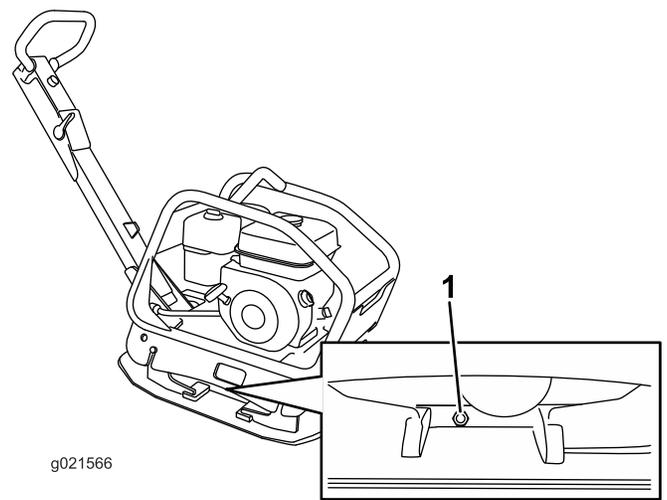

Figure 21
2. Place a drain pan under the oil plug and remove the oil plug screw on the side of the eccentric housing (Figure 21).
2. Place an oil drain pan under the oil plug and remove the oil plug screw (Figure 21). Place an oil drain pan under the oil plug.
3. Tip the plate compactor slightly to the right, and use a suction gun to remove the oil through the oil plug hole (Figure 21).
4. Tip the plate compactor slightly to the left, and slowly pour oil into the oil plug hole (Figure 21).